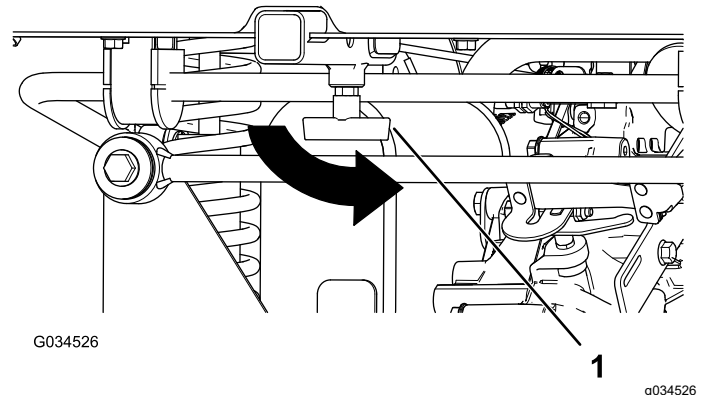

Figure 18
3. Tighten the T handle by rotating it counterclockwise (Figure 18).